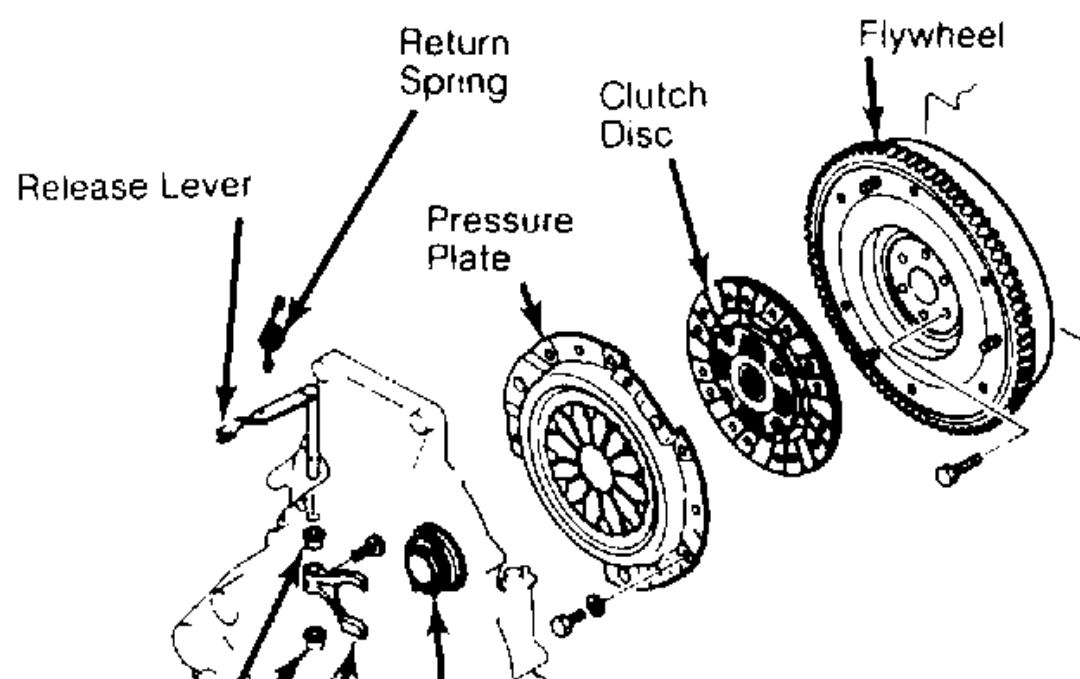

Fig. 4: Exploded View Of Clutch Assembly
7. If reusing pressure plate, mark pressure plate-to-flywheel position for installation reference. Remove pressure plate retaining bolts evenly. See Fig. 4 . To avoid dropping clutch assembly while removing bolts install clutch aligner. Remove pressure plate, clutch disc and clutch aligner. Remove flywheel. Remove pilot bearing from flywheel (if replacing).
2. Position clutch disc on flywheel with damper springs facing away from flywheel. Hold clutch disc in place with Clutch Aligner (T77F-7137-A). Position pressure plate over clutch disc. See Fig. 4 .
Remove transaxle. Remove release lever bolt and slide release bearing off. See Fig. 4 . Remove release lever shaft and remove release lever.